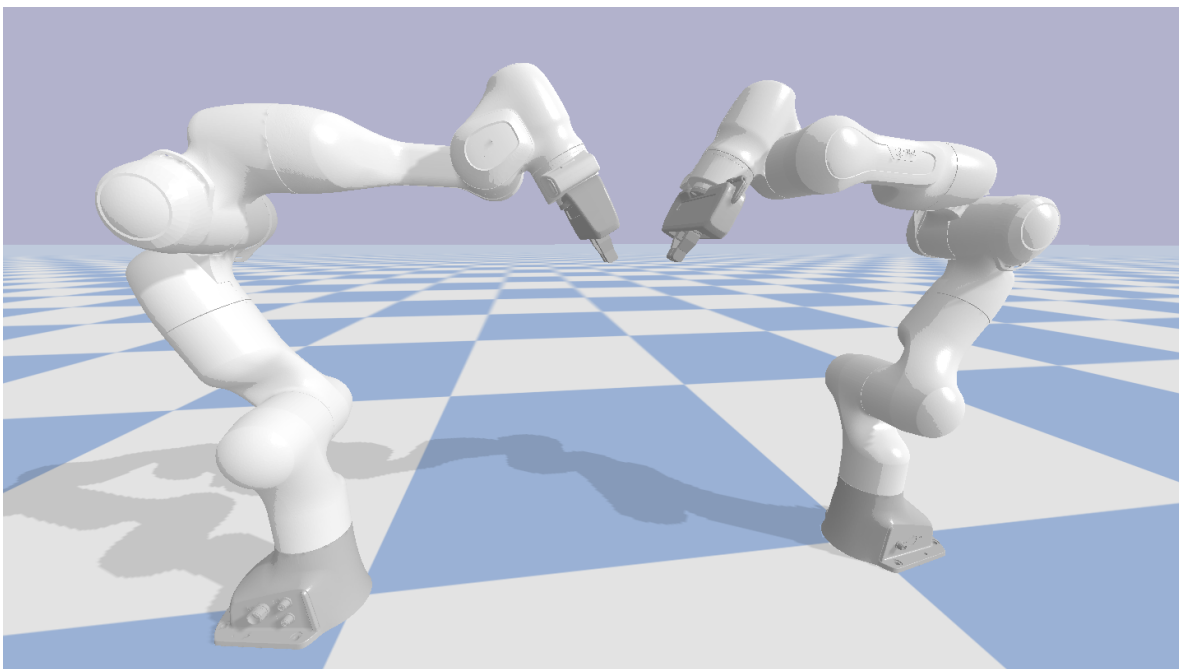

Figure 3: Robot configurations for grasping the object
2. The first phase foresees to move the tool frame of both manipulators to the grasping points, by implementing the *Tool equality* task, defined as a class inside the *Tasks* folder. Define the goal frames for each manipulator such that their origin corresponds to the grasping points. **HINT:** the position of the grasping points can be computed by knowing the origin of the object frame  ${}^wO_o$  and the object length  $l_{obj}$ . The goal orientation of the tool frames is obtained by rotating the tool frames 30 deg around their y-axis; the manipulators should reach the configuration depicted in Figure 3.